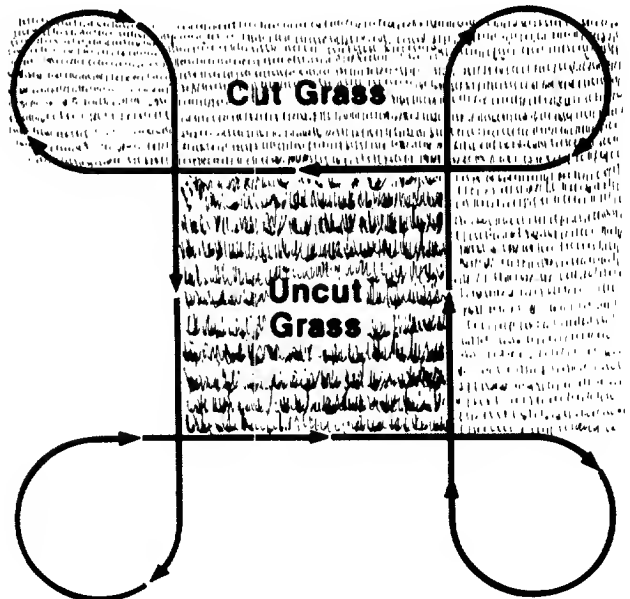

Figure 55
4. Follow the mowing procedure shown in Figure 55.